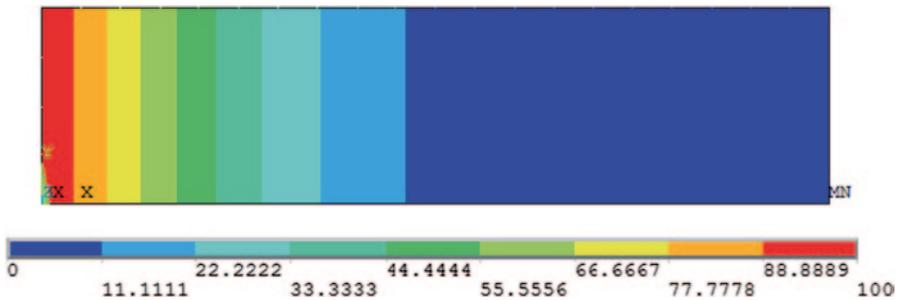

Fig. 5.26 Temperature distribution contour plot at $t=5$
- Figure 5.26 shows the contour plot of the temperature distribution at $t = 5$ as it appears in the Graphics Window.